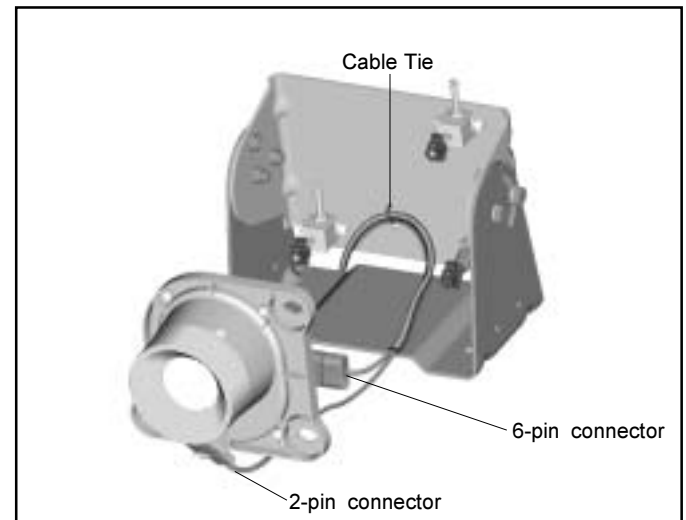

FIGURE 23 - CONNECTING THE IR CAMERA HARNESSSES
4. Install new camera. Plug the 2-pin connector of the IR camera harness into the window heater. Refer to Figure 23.
5. Plug the 6-pin connector of the IR camera harness into the IR camera connection. Refer to Figure 23.